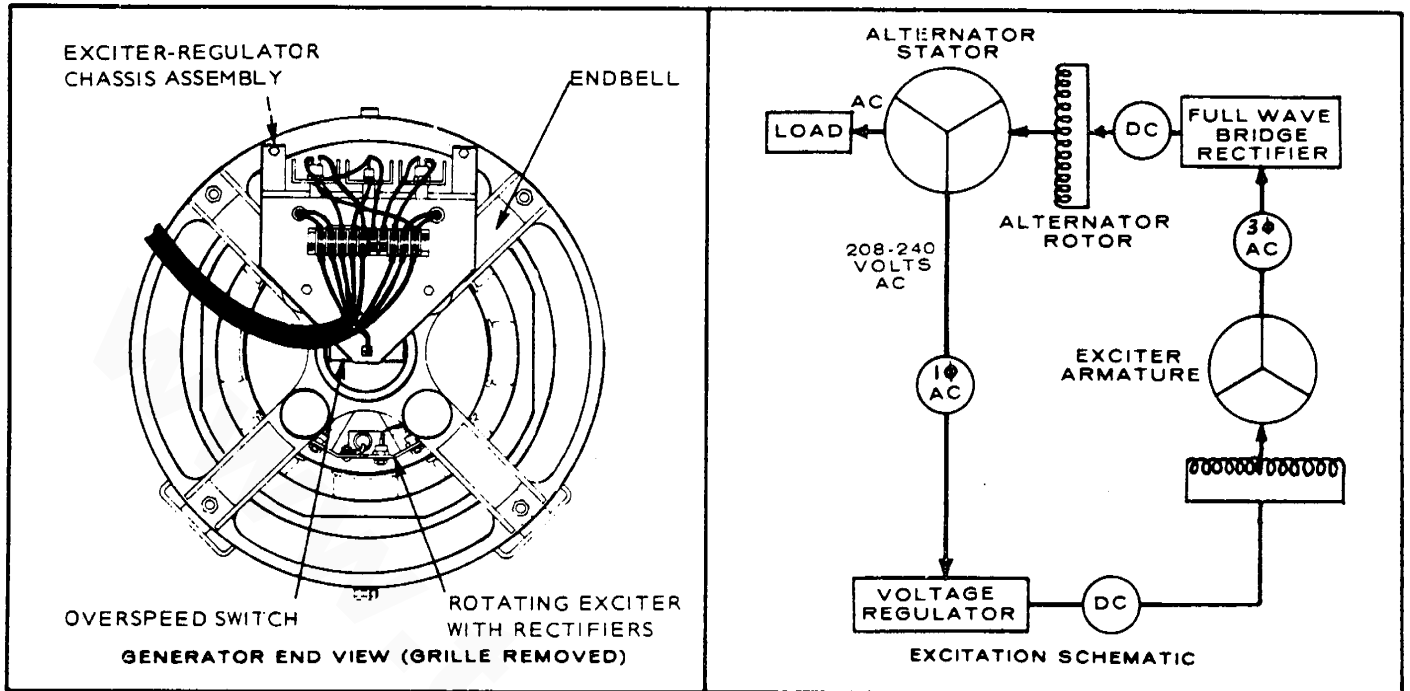

FIGURE 2. ROTATING (BRUSHLESS) EXCITER DESIGN
3. On brushless models, rotating exciter assembly mounts directly behind exciter-regulator chassis assembly with all diodes accessible for servicing. See Figure 2.